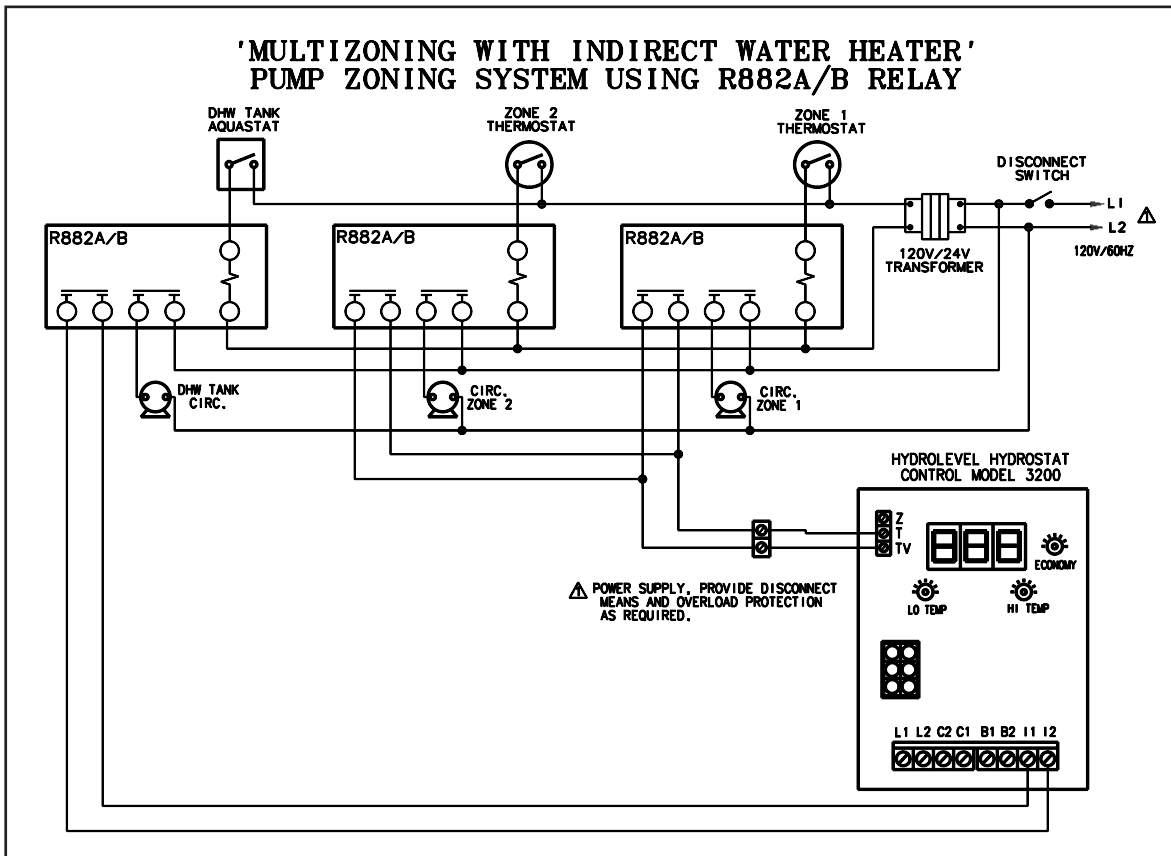

Figure 6. Multizoning of Sentry boiler-2 zone system pump zoning system using R882A/B relays.
- c. Power DHW and heating zone(s) circulators through end switch relays as shown on figure 6. Do not connect heating zone(s) circulators to C1 and C2 of the control.